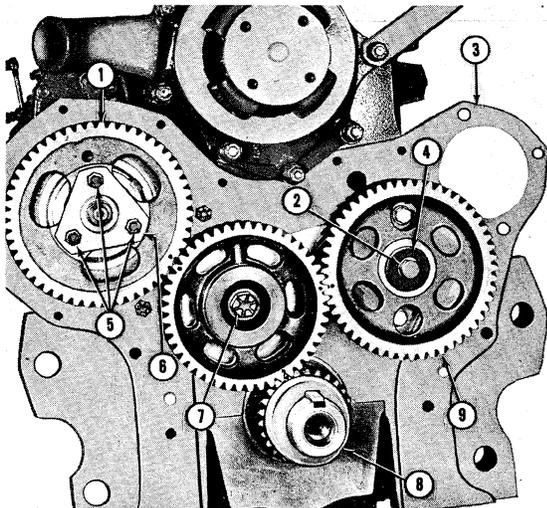

Figure 24
2. **TIMING GEAR:** Install the camshaft drive gear and bushing with the timing marks aligned, Figure 24. Tighten the bolt to the specified torque, Chapter 4. Recheck the backlash between the gears.